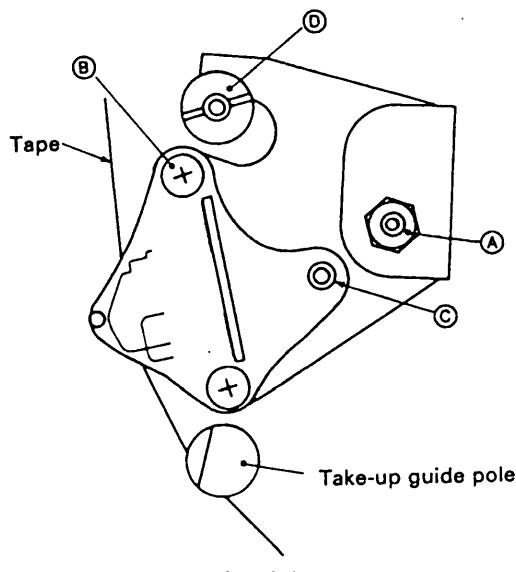

Fig. 5-2
- Turn screw © (Fig. 5-2) and adjust for smooth transport at the take-up guide pole.